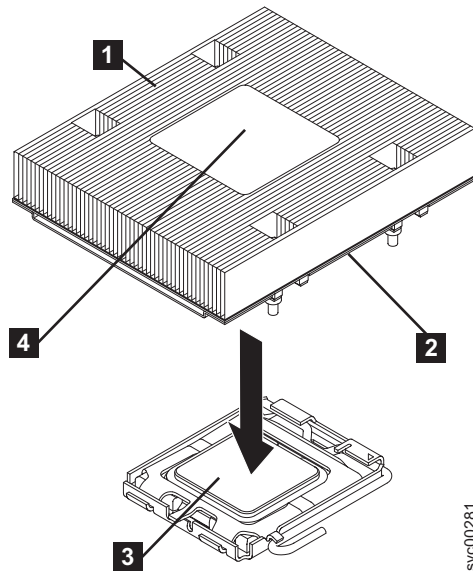

Figure 260. Installing the heat sink
7. Place the heat sink **1** on top of the microprocessor **3** with the thermal grease **2** side down, as shown in Figure 260 on page 276. Tighten the captive screws to secure the heat sink to the system board. Alternate among